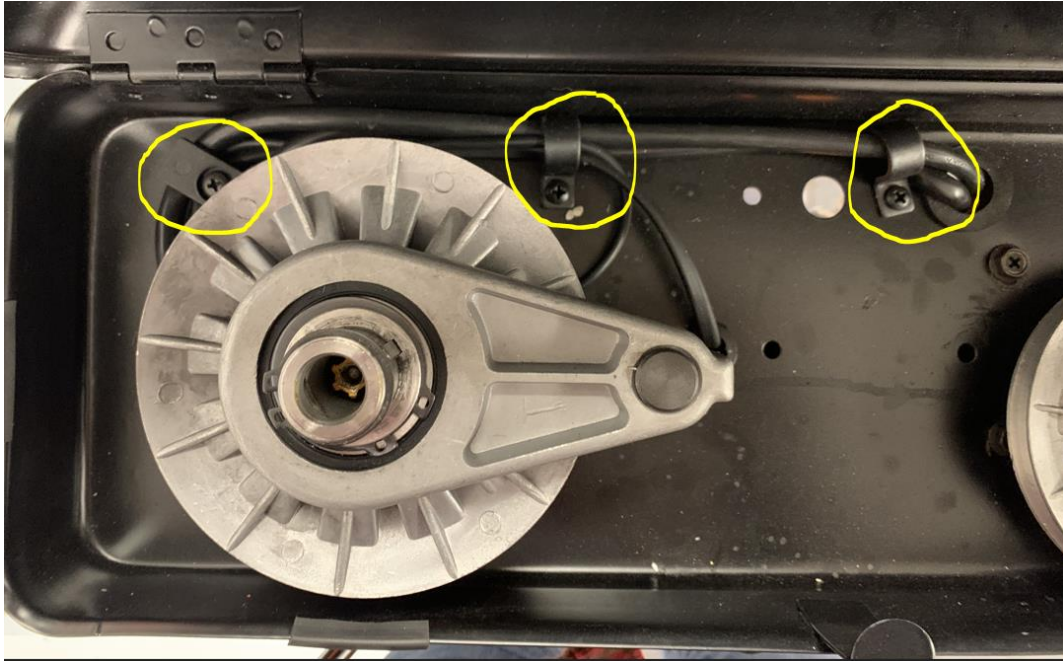

Figure 6. Internal Cable Clips
2. Inside the drill press case, there are three additional wire clips, as shown in Figure 6. Remove these clips as well, noting which wire is coming from the motor. It may be helpful to take a picture of the wire routing for when you have to re-route the motor wire.